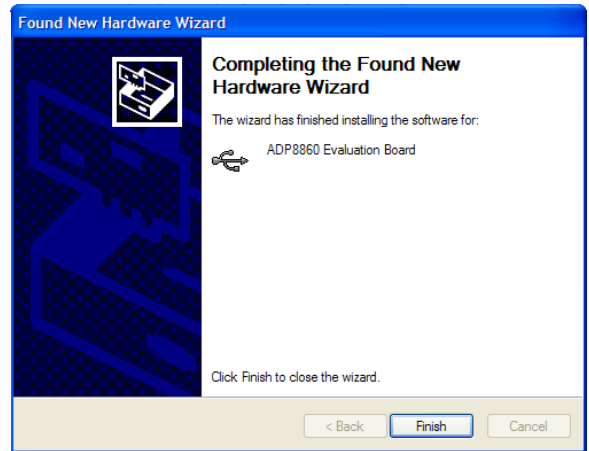

Figure 10. Driver Installation Complete
4. Click **Finish** to complete the driver installation (see Figure 10).